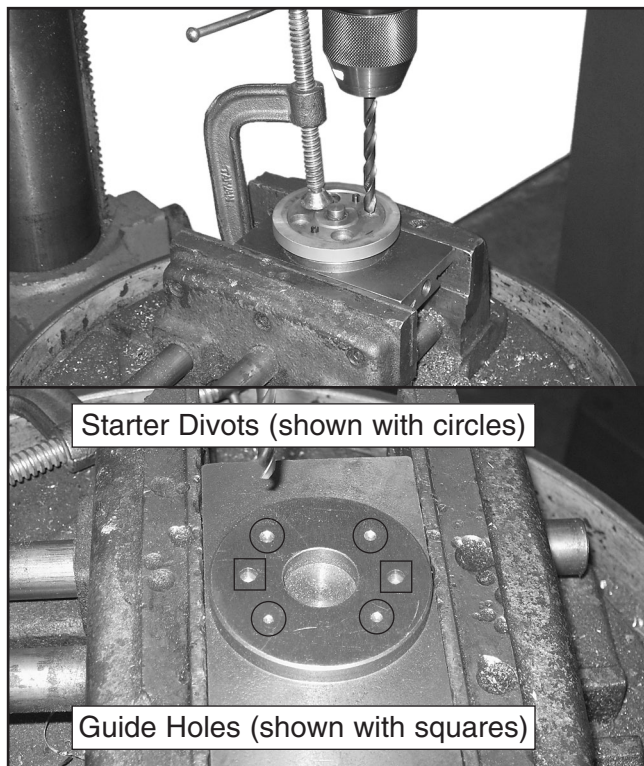

Figure 11. Using a 0.265" (or H) drill bit to bump starter divots in the new base.
13. Align the drill bit with a screw hole in the adapter plate (as shown in **Figure 11**), then run the drill at a low speed and just bump the base lightly with the drill bit to make a starter divot for later drilling and tapping. Repeat this step on all four screw holes.